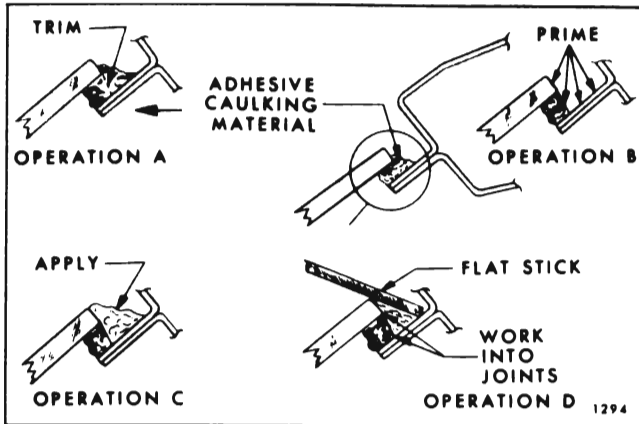

Fig. 4-25—Back Window Installation
7. After final adjustments have been made and glass is in proper position in opening, apply a piece of masking tape horizontally over each side edge of glass and rear quarter extension (Fig. 4-25), so that when glass is being installed, tape on glass can be aligned with tape on body and serve as a guide.
13. Install glass in body opening making certain that glass sets properly on spacers and does not have to be shifted after material contacts pinchweld flange. Align tape on glass with tape on body to guide window into opening. (See Fig. 4-25).